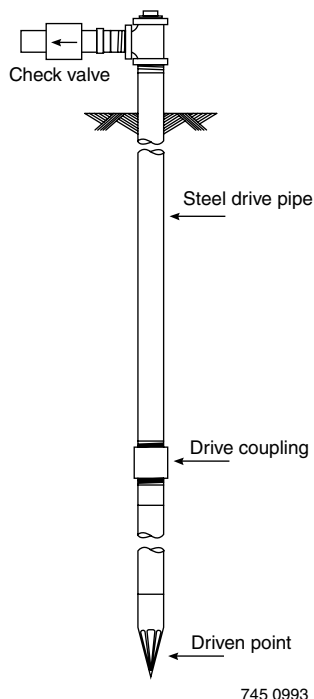

Figure 6 – Driven Point Installation
1. Connect the suction pipe to the drive point as illustrated in Figure 6. Keep horizontal pipe run as short as possible. Use PTFE pipe thread sealant tape on male pipe threads. Multiple well points may be necessary to provide sufficient water to pump.
2. To aid priming on well point installations, install a line check valve as shown in Figure 6. Be sure check valve flow arrow points toward pump.
NOTICE: For long horizontal pipe runs, install a priming tee between check valve and well head as shown in Figure 6. For driven point installations, install a check valve as shown in Figure 6. Be sure check valve flow arrow points **toward** pump.